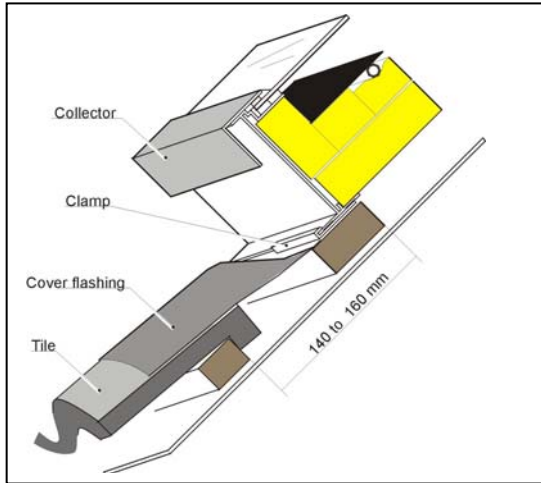

Figure 2.1
- 2.5 Remove the screws in the panel glazing frame (Note – Use marking tape to help realign the cover later), allowing the cover to be removed. Hoist the panel base to the roof (Note – Care must be taken not to touch or damage the selective surface of the panel). Place the panel in position, with the bottom edge mounted in the clamps (see Fig.2.1), check that the holes in the roof are aligned with those in the panel. Using the 6 supplied screws, fix the panel to the roof laths.